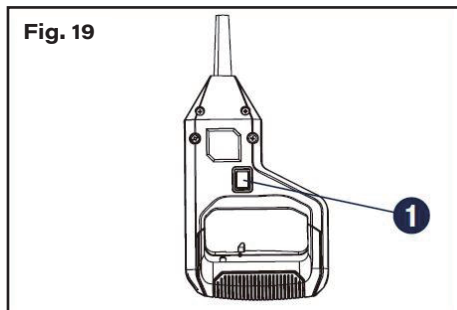

Fig. 19
Laser cut guide (fig. 19)
The laser cut guide is equipped with an ON/OFF switch (1) located on the main handle (Fig.19). The laser cut guide is independent of the mitre saw's trigger switch. The light does not need to be turned on in order to operate the saw. When switched on, the laser cut guide casts the shadow of the blade onto the workpiece, resulting in better accuracy of cuts and requires no calibration.